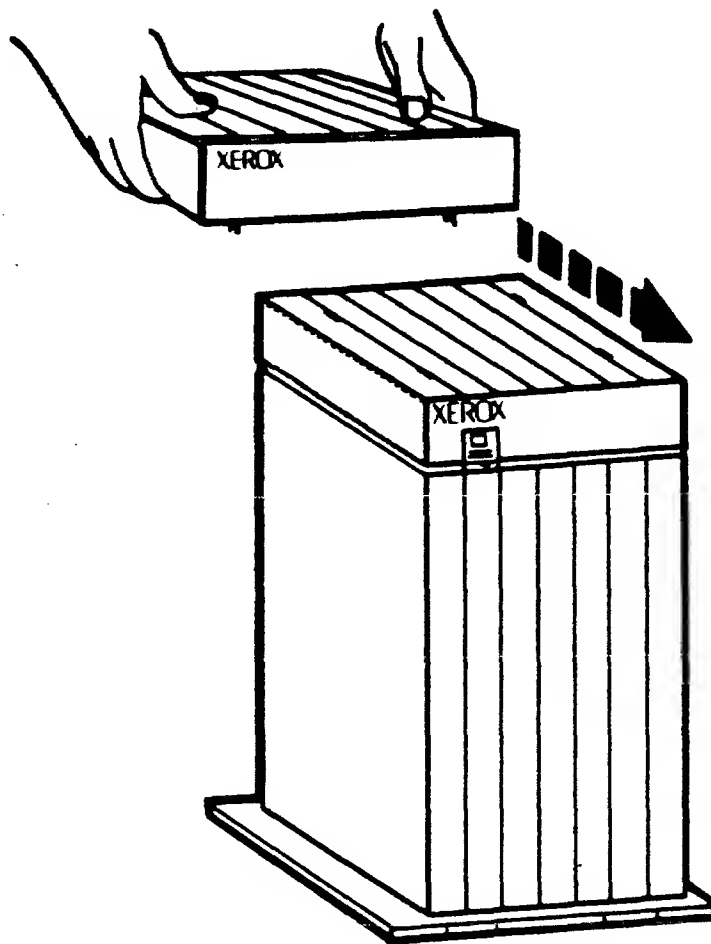

Figure 2-19. Placing Floppy Disk Drive on Processor
2. Place the floppy disk drive on top of the processor unit by aligning the four clips in the floppy disk drive with the four corresponding slots on top of the processor unit, as shown in Figure 2-19.